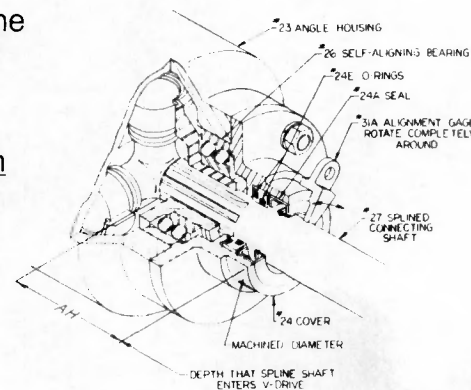

FIG. 10
- Slide the #31A Alignment Gage completely around the machined diameter of the #24 Angle Cover so that the tip of the #31A is touching the #27 Splined Connecting Shaft. If there is a gap between the tip of the #31A Alignment Gage and the #27 Splined Connecting Shaft, this indicates that the engine must be moved accordingly to eliminate this gap in order to center the #27 Splined Connecting Shaft in the #24A Oil Seal. (SEE FIG. 10)